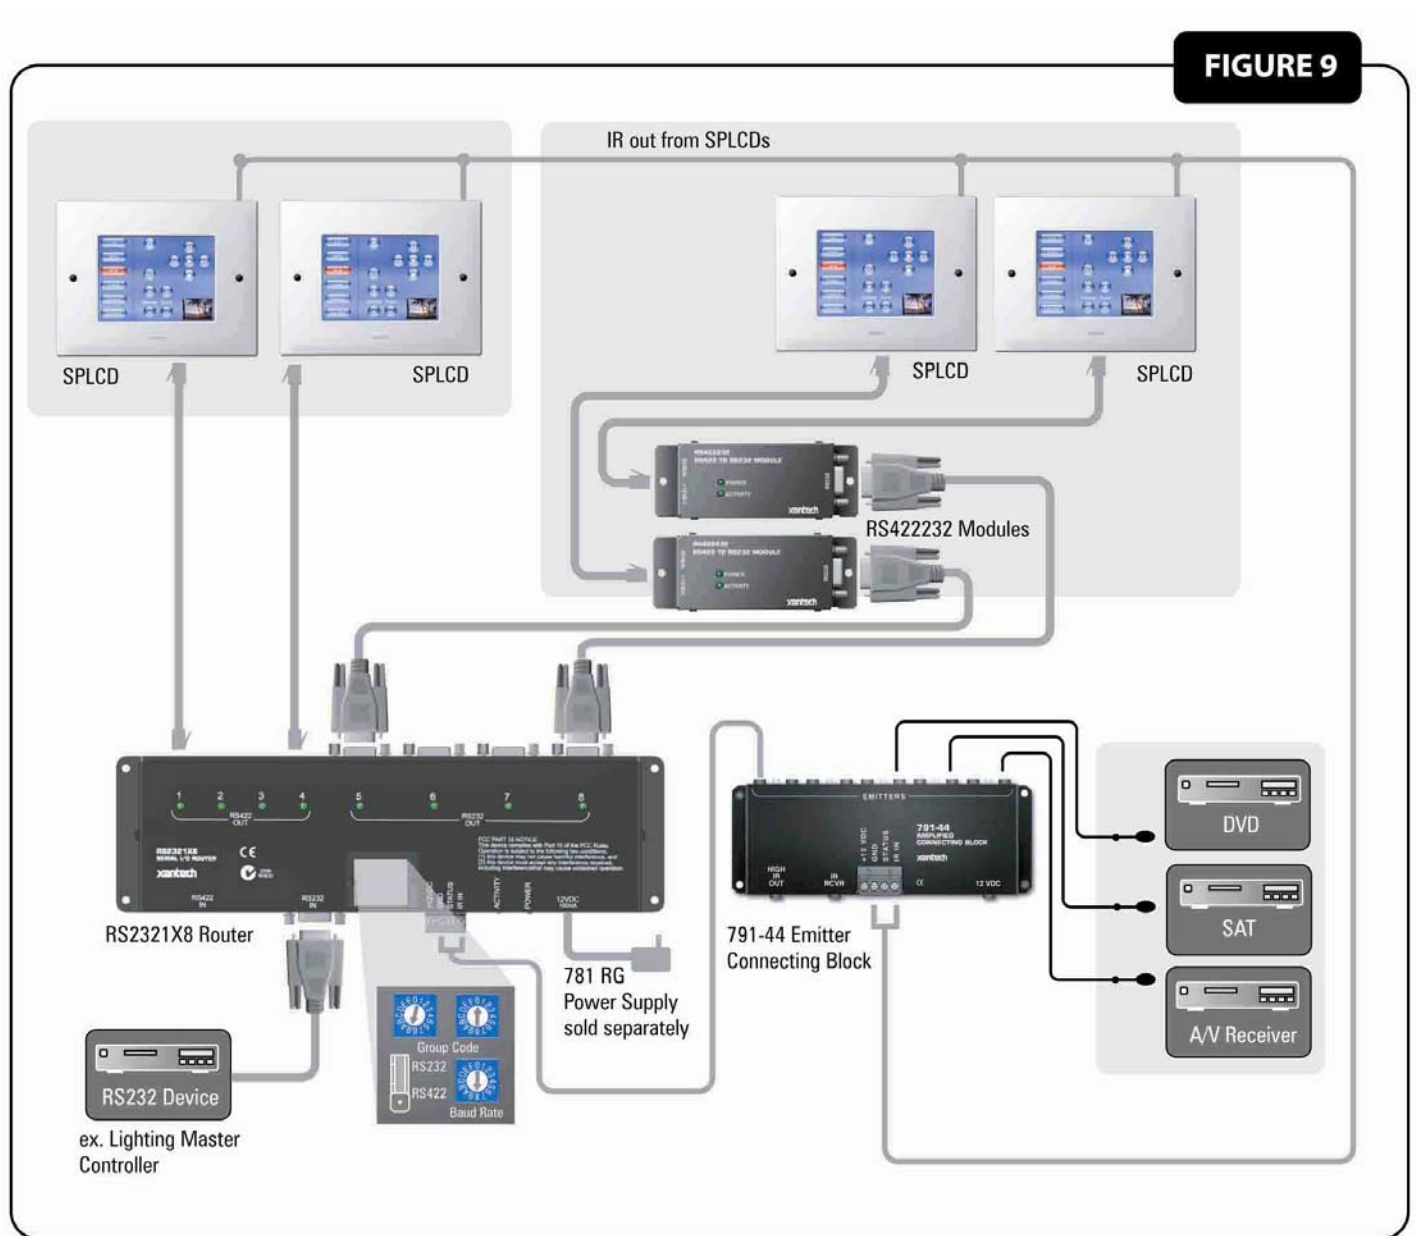

Figure 9: Multiple SmartPad™ LCD panels Controlling a single RS232 Device
2. Connect all devices as shown in **Figure 9** below.